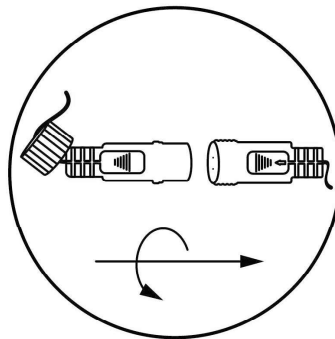

Fig.3
6. Connect the plug to the extension cord with male plug to female plug, plug the light set into a standard 120-volt AC electrical outlet. (see Fig.3)